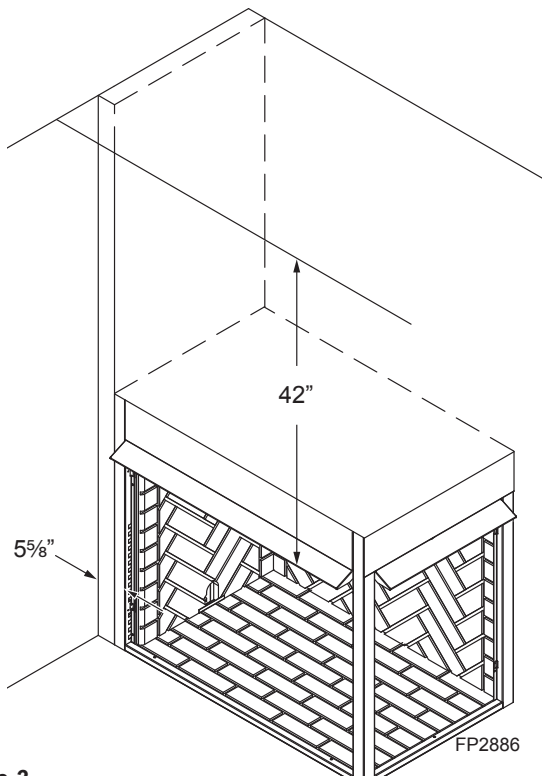

Figure 3 -
Ensure that minimum clearances shown in *Figures 3 through 7* are maintained. Left and right clearances are determined when facing the front of the firebox.
1. **Sidewall Clearances** — The clearance from the inside of the appliance to any combustible adjacent wall should not be less than $5\frac{5}{8}"$. *Figure 3*
2. **Ceiling Clearance** — The ceiling must be at least 42" from the top of the firebox opening (bottom of hood). *Figure 3*